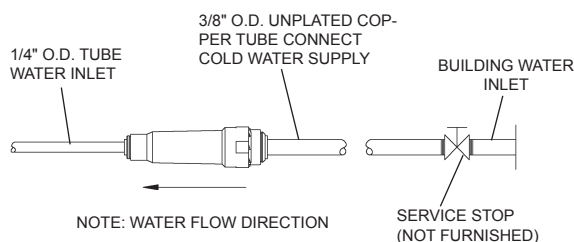

FIG. 9
5. Connect drain and water supply lines to the freeze resistant fountain. Refer to Figure 1 or Figure 3 for component positions. Inline strainer must be used on the inlet water line. See Figure 9.